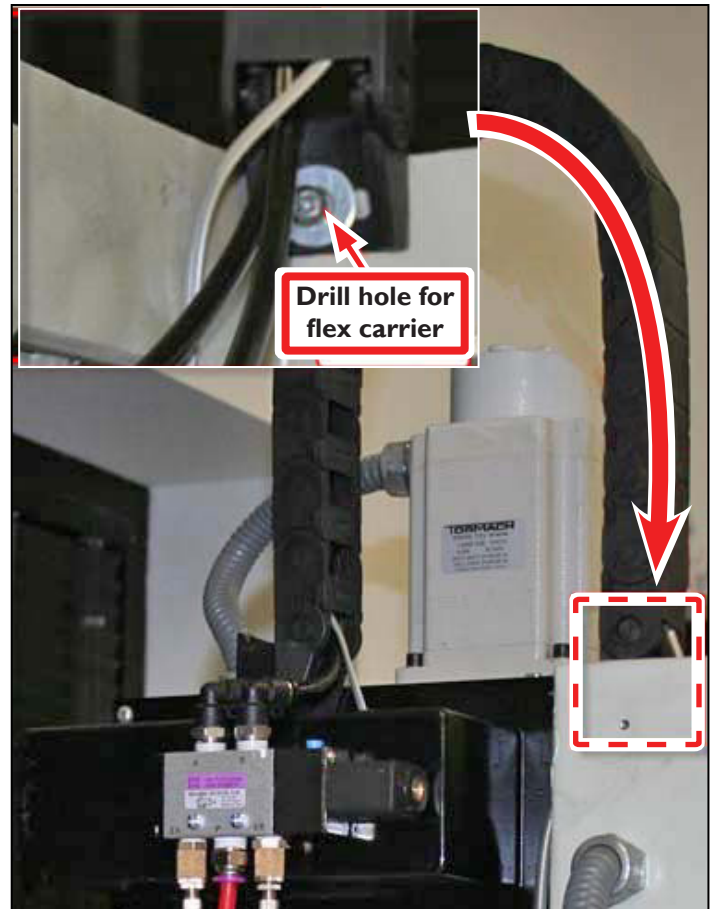

Figure 22
8. Mount the free end of the carrier with the Carrier Cable End Bolt with Washer and Lock Washer as shown in **Figure 22** and **inset**.